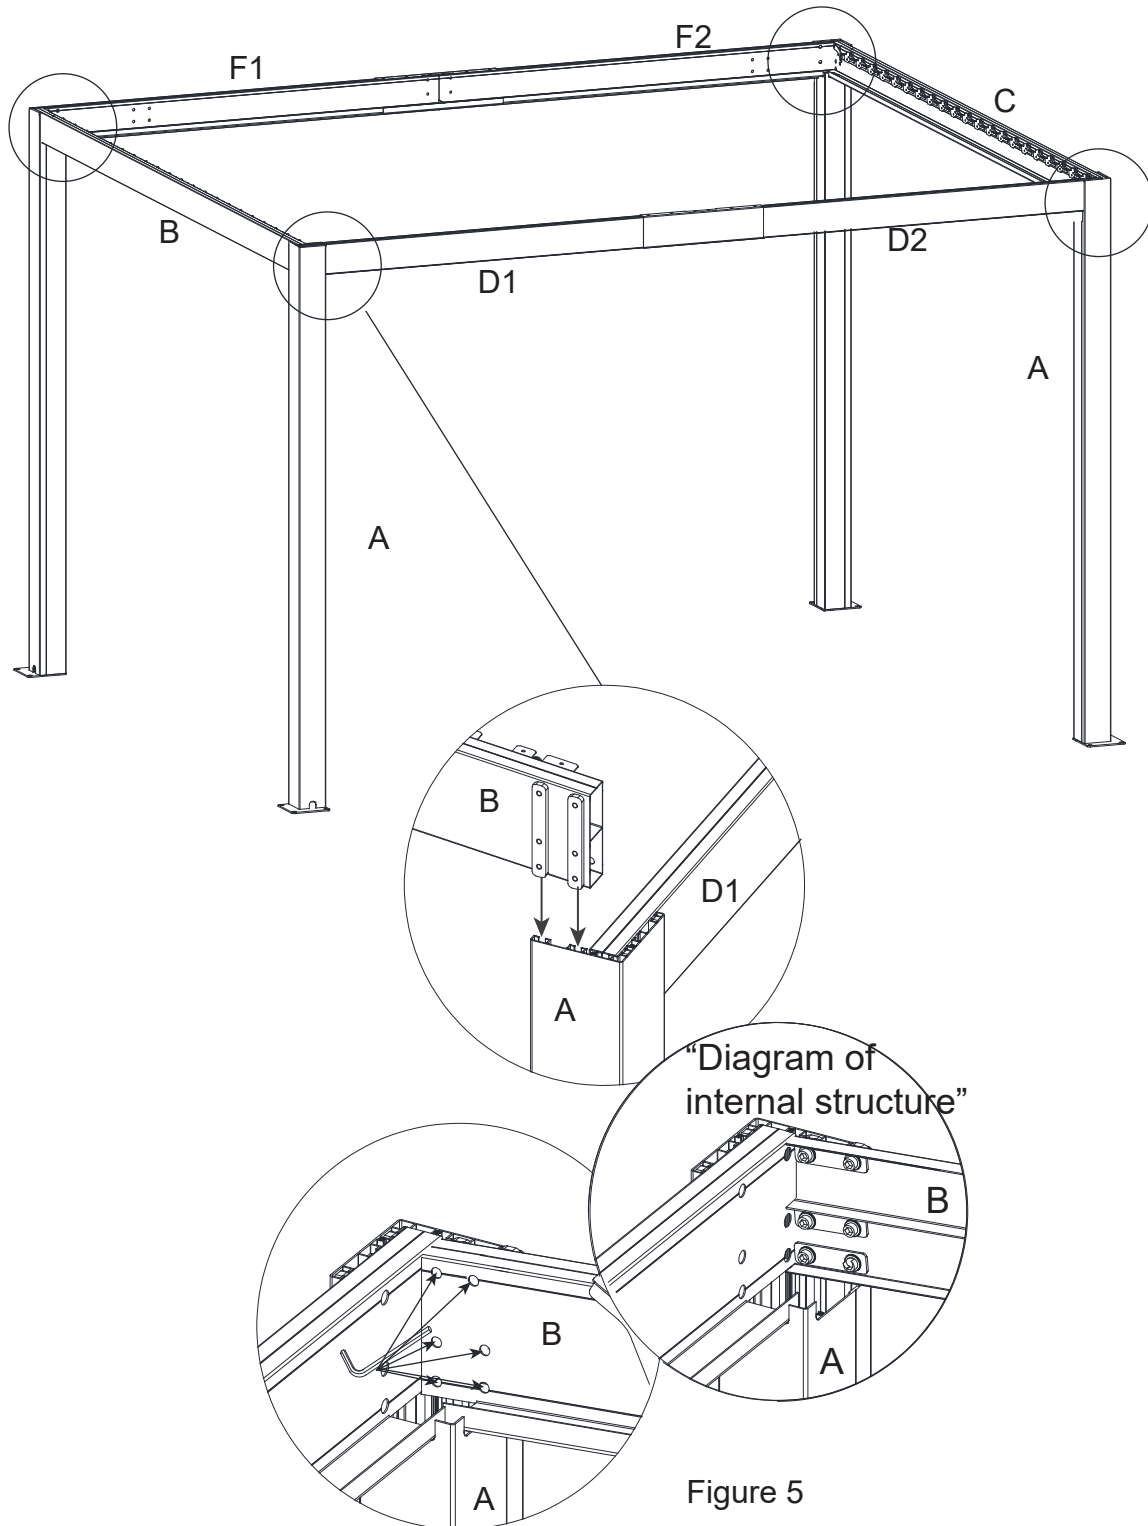

Figure 5
5. Slide one end of the Lintel (B/C) into the built-in guide of the Corner Post (A) and tighten it by Wrench, See Figure 5.